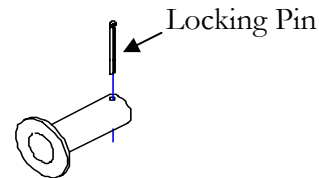

Figure 2
- Use a safety-locking pin when connecting hitch pins. Failure to do so could result in loss of pin and possible damage to equipment (figure 2, page 2-1) and become a safety hazard.
- Use a safety locking pin when connecting hitch pins. Failure to do so could result in loss of pin and possible damage to equipment (figure 2, page 2-1) and become a safety hazard.